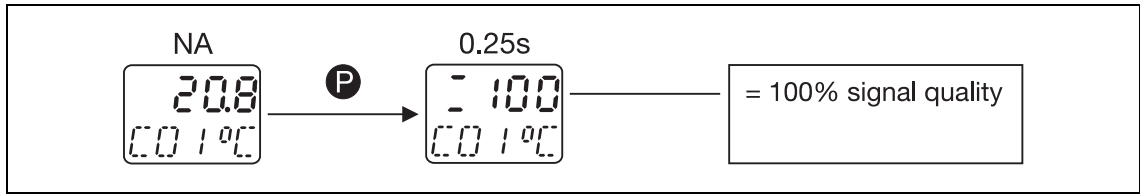

Figure 22: Signal quality display
Key **P** is used to show the signal quality of the current channel in percent in the standard display (NA) (see Figure 22, 100 %).